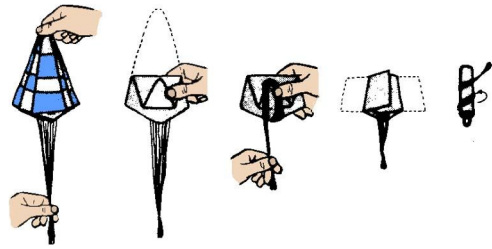

Fig. 13
- **Step 21** Study the method for packing the parachute shown in Fig. 13. The object is not to crush or compress the parachute in such a way that it cannot open when deployed. Wrap the lines around the folded material a little loosely, never tightly. In cold climates, or during winter, it is highly recommended that you give the parachute a dusting with talcum powder before folding. Never fold your parachute or pack it for storage inside the body tube of your rocket. Leave it opened, and separate from the rocket. That's why we suggest attaching it with a snap link – it's easier to remove it after flight.